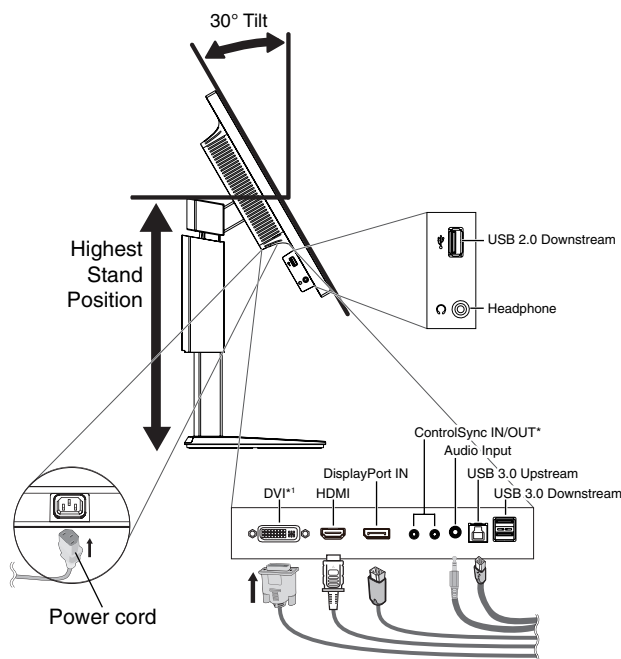
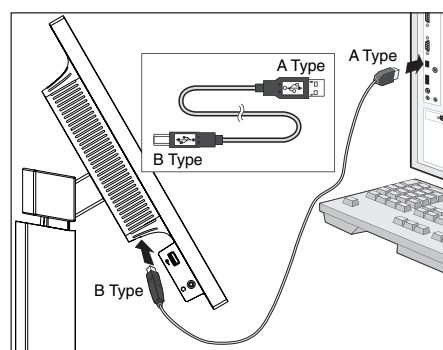

Figure C.1
Figure C.1a
4. Connect all cables to the appropriate connectors (**Figure C.1**). When using the USB cable, connect the B type connector to the USB upstream port on the right back side of the monitor and the A type connector to the downstream port on the computer (**Figure C.1a**). If using the cable from a USB device, plug into one of the downstream ports of the monitor.